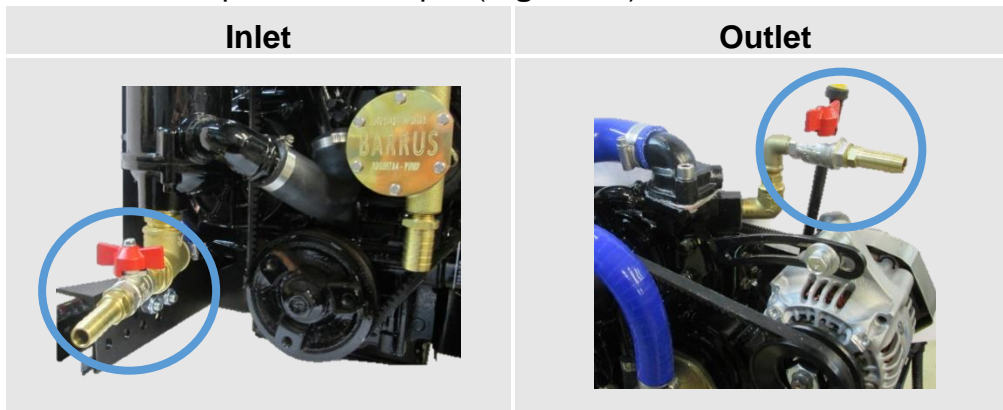

Figure 28: Position of Calorifiers on a Work Boat
- The calorifiers are positioned as per (Figure 28)